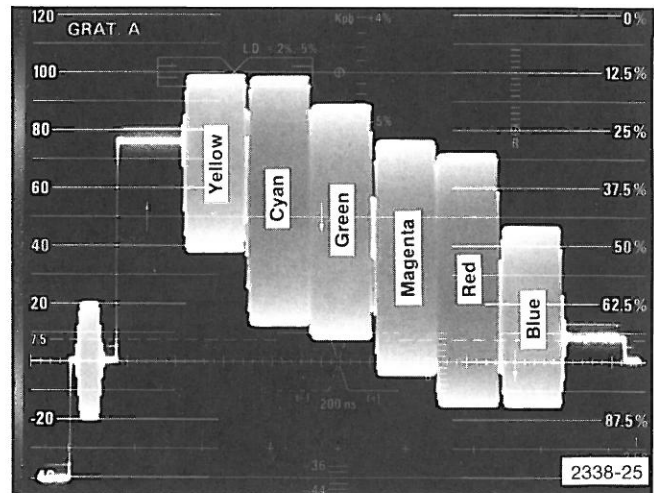

Fig. 5-3. NTSC Color Bar Signal (Color Bars are in identical location for PAL signal.)
a. Connect a color bar test signal from the video signal source to the 1480-Series VIDEO INPUT A connector. Connect the VIDEO INPUT A loop-thru connector to the AUX VIDEO IN connector. Do not terminate. Set the RESPONSE switch to FLAT, and the DISPLAY switch to $5 \mu\text{s}/\text{div}$. Note the amplitude difference between the tops of the yellow and cyan bars. See Fig. 5-3, Color Bar.